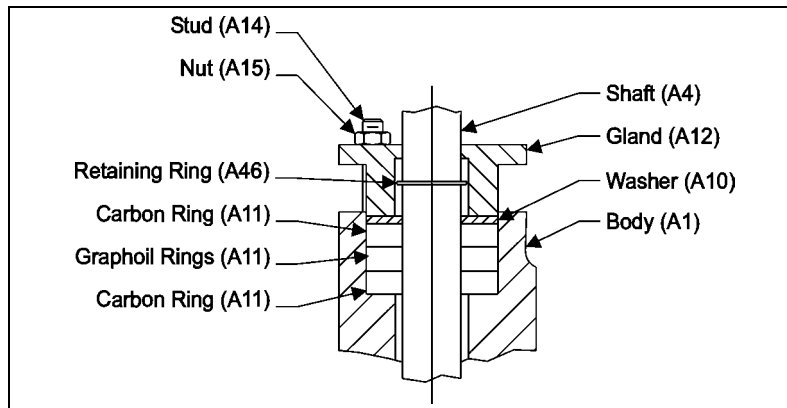

Figure 6 — Packing Option (G1)
- Place the packing in the body, one ring at a time, in the configuration shown in Figure 6 — do not lubricate.